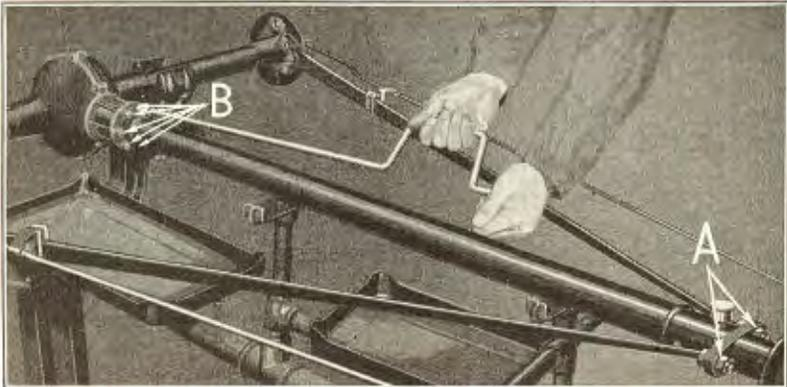
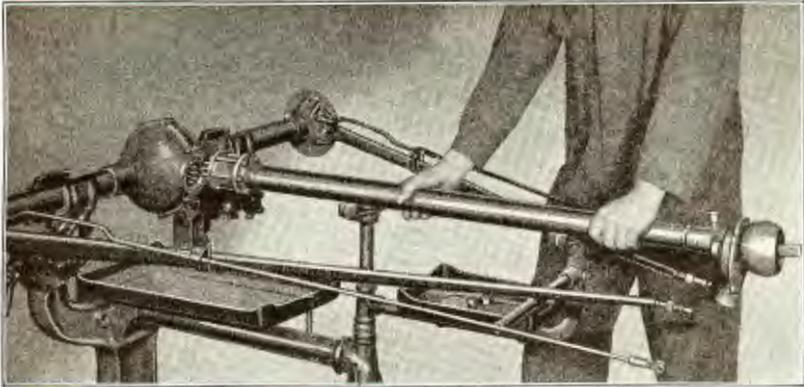

Fig. 320
Fig. 321
- 566** Remove drive shaft by running off the two radius rod nuts from ends of rods (See "A" Fig. 320) and running out the six drive shaft roller bearing housing cap screws "B". Drive shaft can now be lifted from axle housing as shown in Fig. 321.